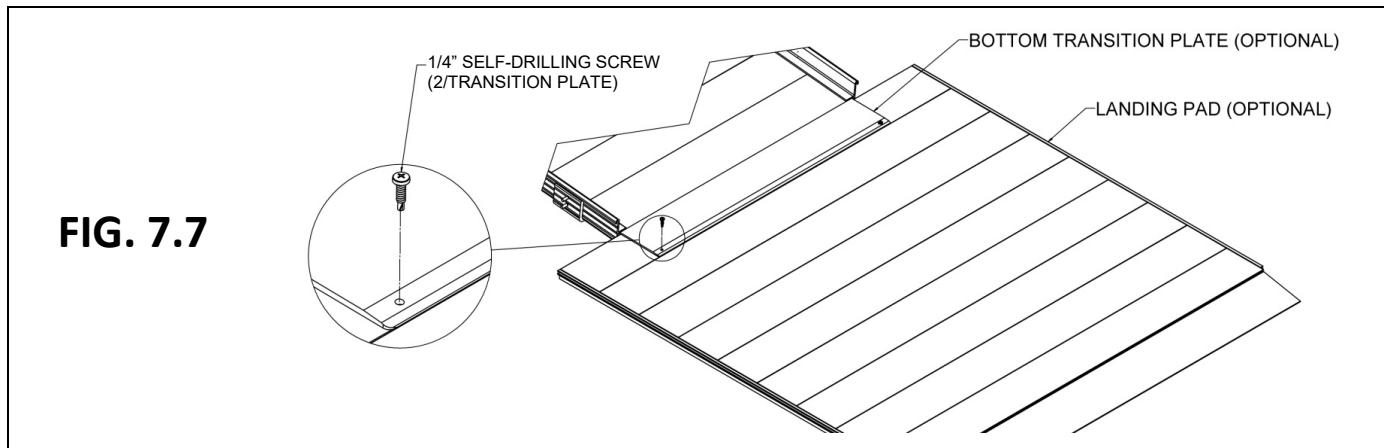

FIG. 7.7
- 7.4.5. Attach lower transition to the pad using two provided 1/4" self-drilling screws (FIG. 7.7).